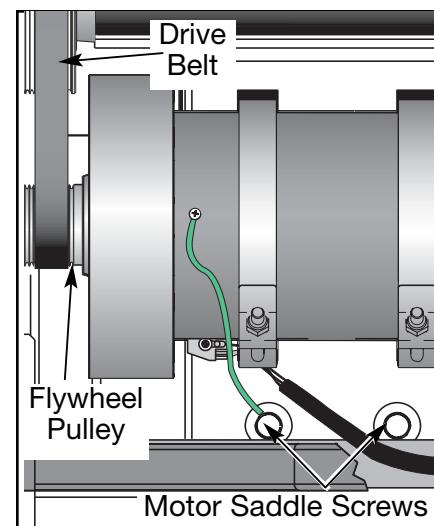

Figure 8
A. Using a 1/2" socket wrench, loosen but do not remove the two screws on the motor saddle. See Figure 8.
A. If you are changing the drive belt, slip the drive belt around the flywheel pulley and off the motor. See Figure 8.
A. Using a 1/2" socket wrench, tighten the two screws on the motor saddle. See Figure 8.
- B.** Using a 9/16" socket wrench with a 3" extension, remove the two front roller screws. See Figure 8.